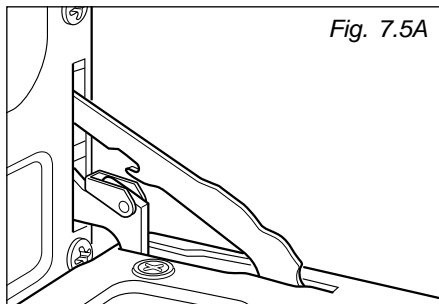

Fig. 7.5A
- Open the door to the full extent (fig. 7.5A).